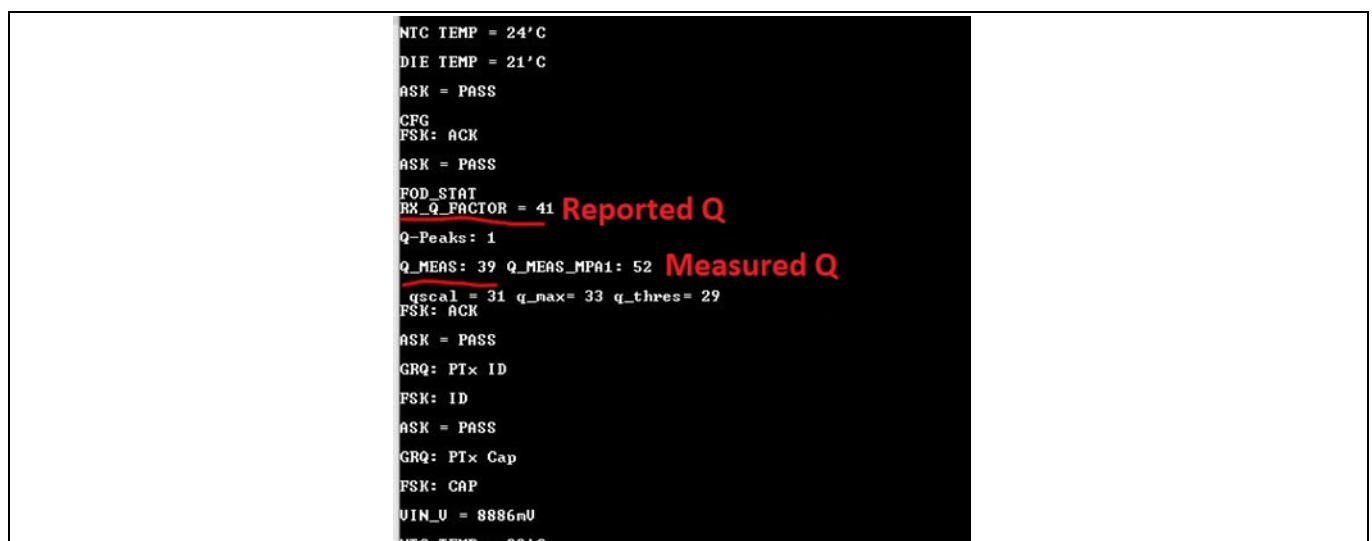

Figure 14 UART logs for receiver-reported and WLC power transmitter measured Q factor
See Figure 14 for the UART logs for the receiver-reported reference Q factor.
2. Capture the measured Q value by the WLC power transmitter with all the EPP TPRs listed below. Ensure no foreign object is present on the interface surface during these measurements. See Figure 14 for UART logs for the WLC-measured Q factor.